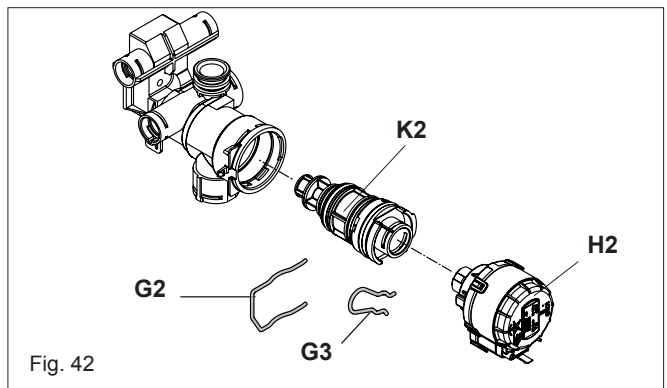

Fig. 42
6.20.3 VALVE ACTUATOR (fig. 42)
6.20.5 DIVERTOR VALVE ASSEMBLY (fig. 42)